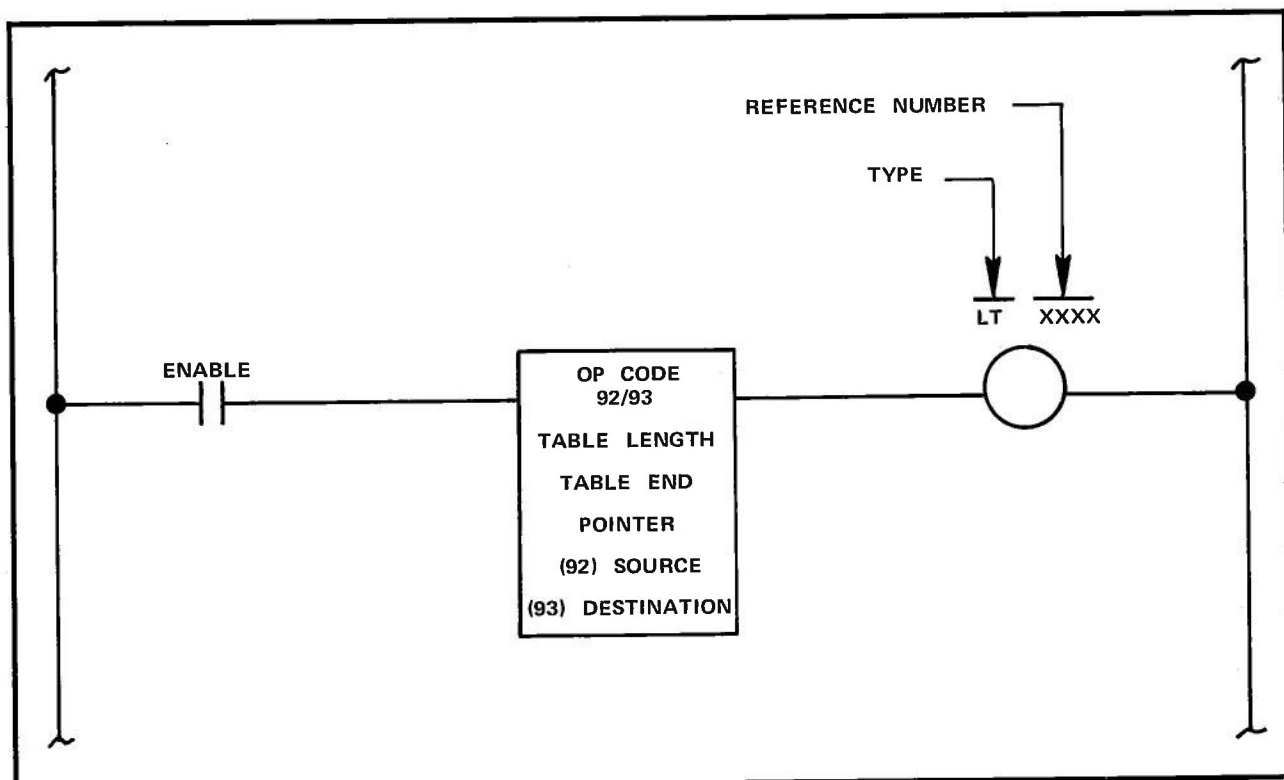

Figure 1. Open Table (OT)/Closed Table (CT)
The Open Table (OT) and Close Table (CT) functions are used to insert or delete data from a table of registers. OT/CT function symbology is shown in Figure 1.